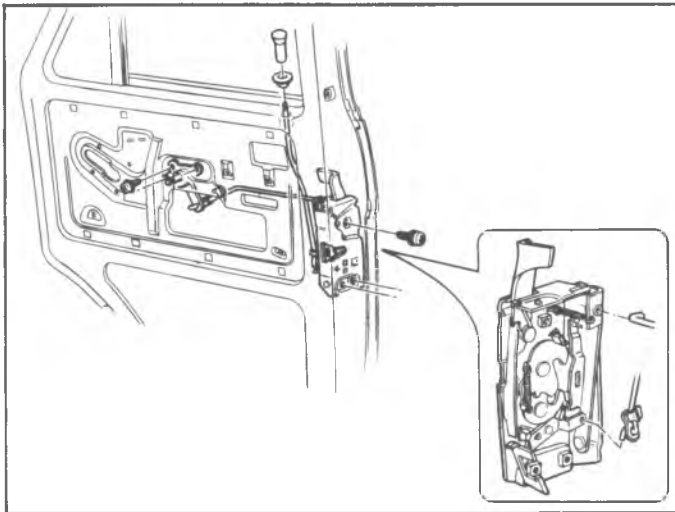

Fig. 19G—Lock and Remote Control Assembly
**DOOR LOCK—FIGURE 19G**
### REMOTE CONTROL AND CONNECTING ROD—FIG. 19G